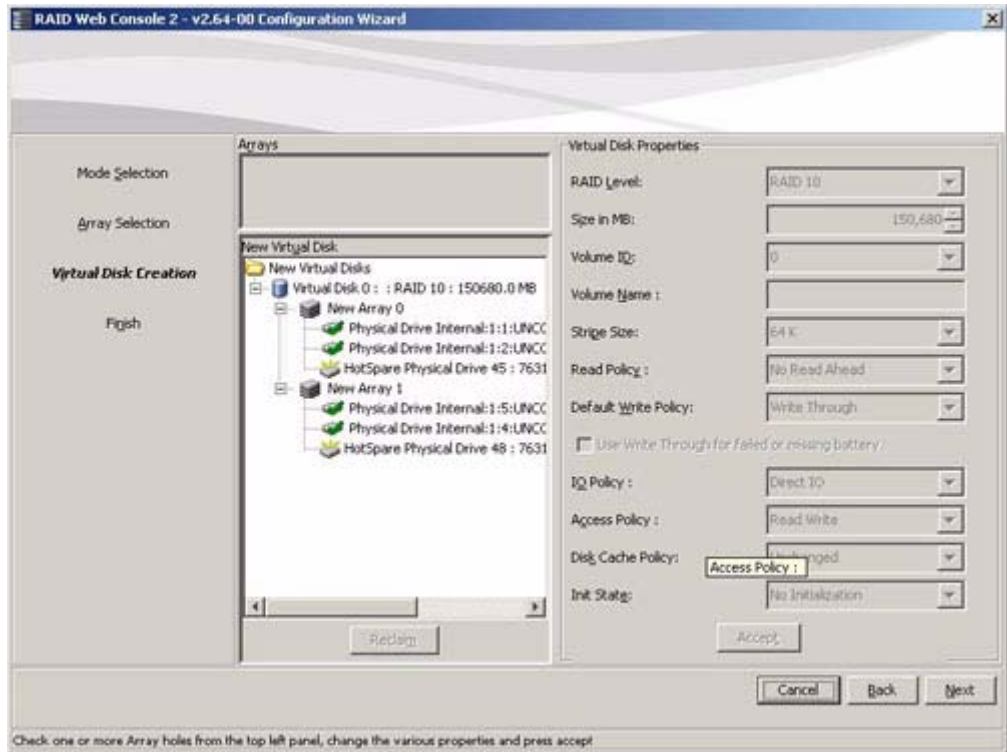

Figure 53. New Spanned Array
6. Change the virtual disk properties as needed, and then click **Accept** to accept the spanned array. The newly defined virtual disk is displayed, as shown in Figure 53.